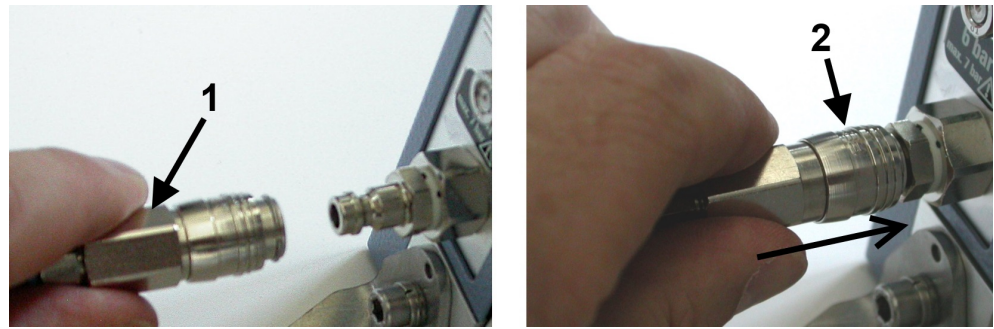

Figure 6-8: Connecting the compressed-air supply
To do so, hold the adapter at its rear part (see 1 in Figure 6-8) and push it onto the quick-coupling plug (2).